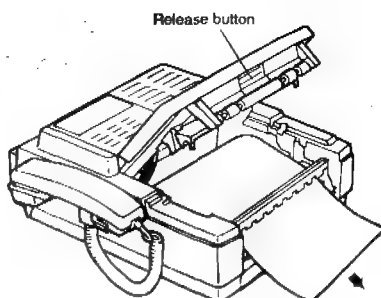

Fig. 3-3-1 Setting Recording Paper
1. Press the release button, and open the recording paper cover. Next, as shown in Fig. 3-3-1, set the recording paper.